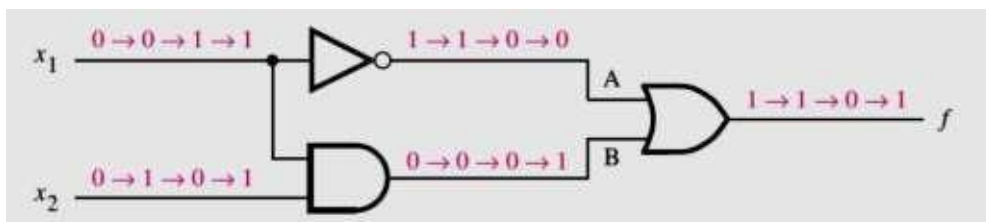
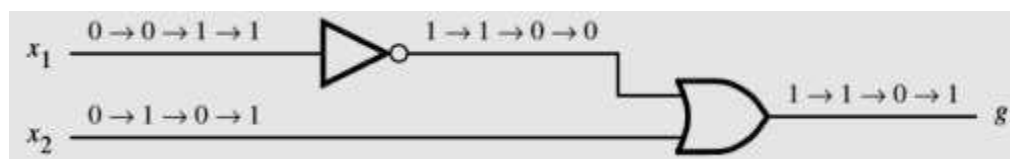

Figure 1.6. functional behavior of the network
Figure 1.9
- To determine the functional behavior of the network in Fig. 1.6, we can consider what happens if we apply all possible values to input signals  $x_1$  and  $x_2$ . The analysis of these input values at various intermediate points is shown in Fig. 1.7.
- Going through the same analysis procedure, we find that the output 'g' in Fig. 1.9, changes in exactly the same way as f does in Fig. 1.6.